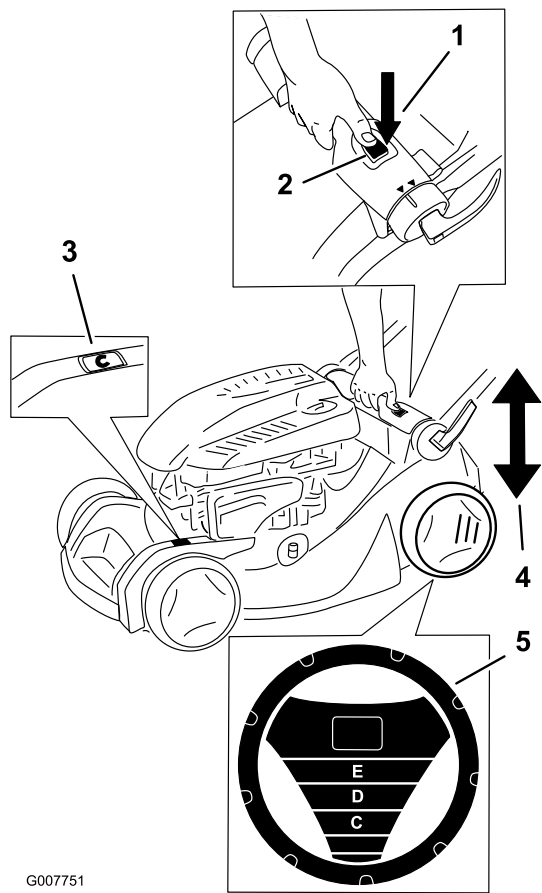

Figure 13
Note: The SmartWheel® calculates the proper setting to ensure that you cut no more than a third of the grass blade (Figure 13).
2. Move the mower into the grass; stop moving the mower when the SmartWheel design is upright (Figure 13).
4. Press down on the cutting height adjustment button and hold the cutting height adjustment handle to move the cutting height up or down (Figure 13).
5. Lift up or press down on the handle, and use the cutting height scale to set the lawn mower to the desired cutting height (Figure 13).